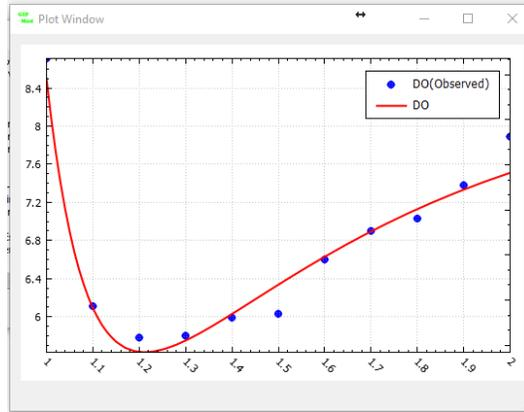

Figure 6.4: Modeled vs. observed plot
- **Modeled vs. Observed comparison:** In the **Project Explorer**, right-click on **Inverse Modeling**→**Observations**→*DO* and then click on **Plot Modeled Data**. The modeled vs. observed graph (Figure 6.4) should appear.